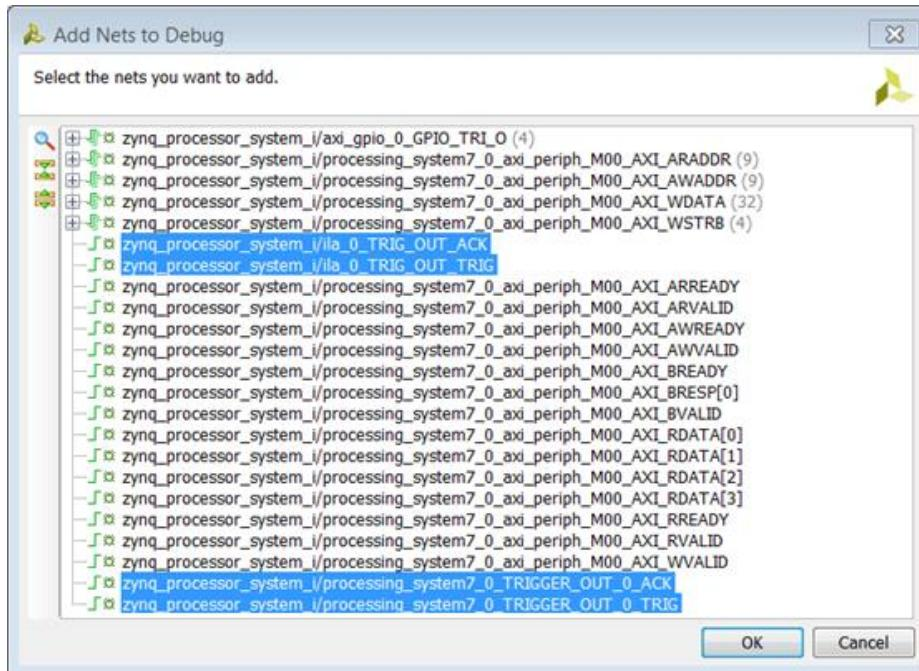

Figure 67: Add Nets Connected to Cross-Trigger Pins
7. Select the following nets, as shown in Figure 67: